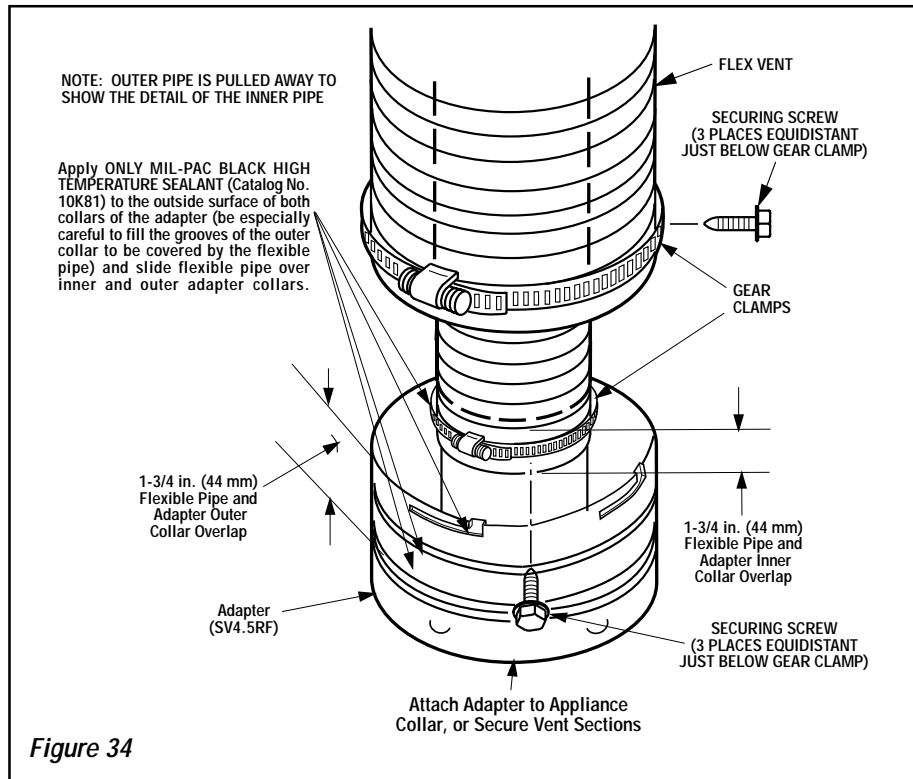

Figure 34
Attach the flexible vent to the adapter as follows (also see Figure 34):
E. Attach Flex Vent to Termination - Secure Flex components can be purchased separately and attached to bulk lengths of Secure Flex flexible tubing cut to size at the job site. Secure the flexible vent to the Secure Flex terminations in the same manner (see Figure 34) as it was attached to the adapter.